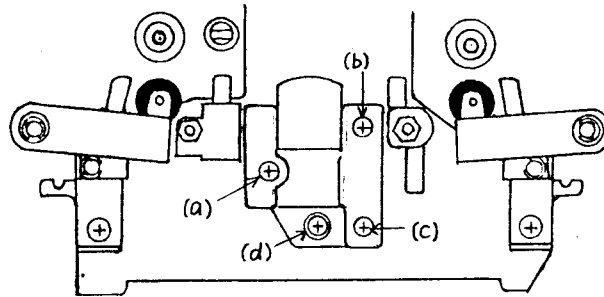

Fig. 4-1
1. REC/PB HEAD HEIGHT ADJUSTMENT (Refer to Figs. 4-1 to 4-3)
2. REC/PB HEAD AZIMUTH ADJUSTMENT (Refer to Fig. 4-1)